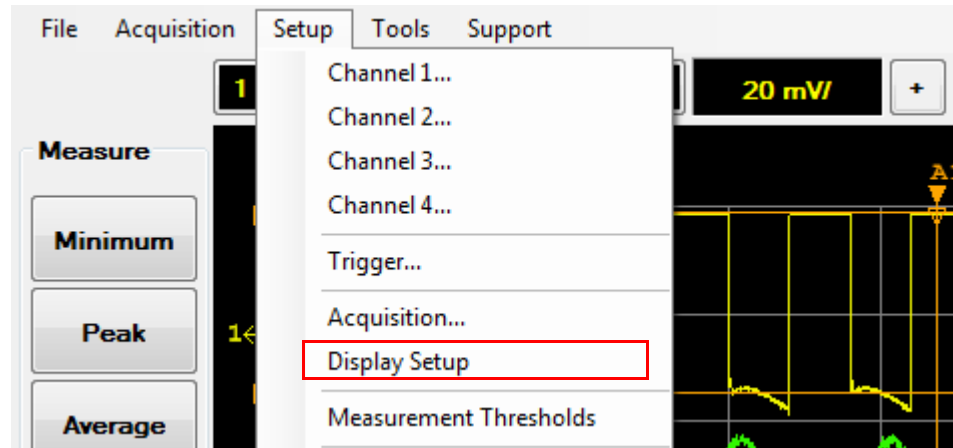

Figure 2-106 Display Setup selection in the Setup menu
- 1 Select **Setup > Display Setup** on the toolbar as shown in Figure 2-106.